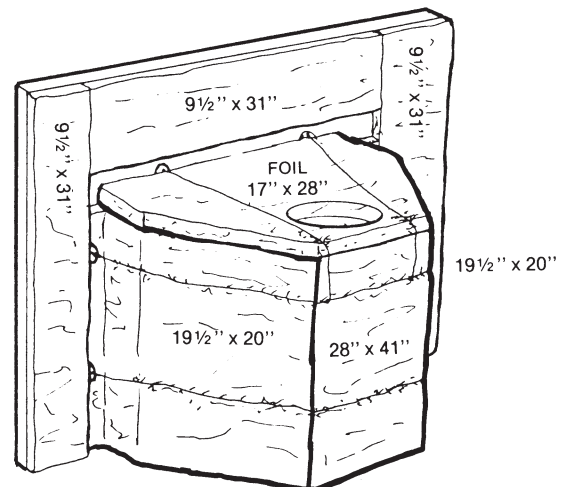

FIGURE 1
2. Secure the fiberglass insulation in place by tying wire (supplied) to the washers on the side of the firebox. Loop wire around the back of the firebox and fasten to the washers on opposite side. Tie wires to the top washers on the firebox and fasten to lower horizontal wire on back. Cut away the insulation and foil blocking the flue with a sharp knife. (See Figure 1)